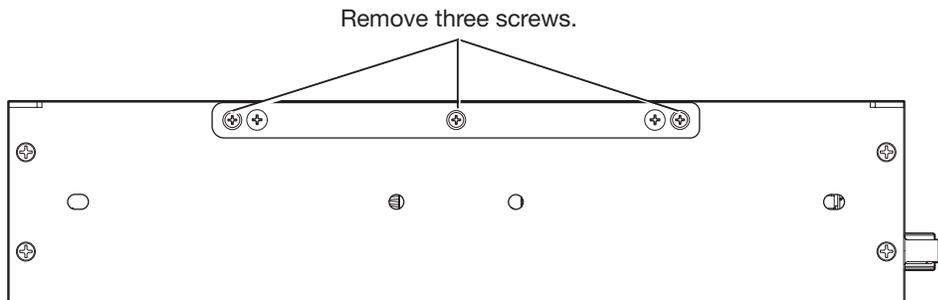

Figure 6. Removing the Metal Strip from the Failed Redundant Power Supply Back Panel
3. Remove the metal strip from the back of the failed redundant power supply by unfastening the three flat-headed screws (see figure 6). (Retain the back plate and screws to reattach the strip in step 6).